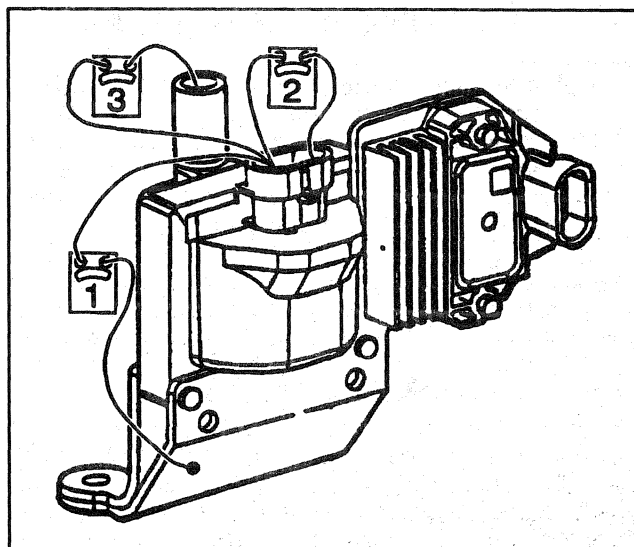

Figure 6—Testing the Ignition Coil (typical)
2. Connect an ohmmeter as shown in Figure 6, Step 1. Use the high scale. The reading should be infinite. If not, replace the coil.
3. Connect the ohmmeter as shown in Figure 6, Step 2. Use the low scale. The reading should be 0.1 ohms. If not, replace the coil.
4. Connect the ohmmeter as shown in Figure 6, Step 3. Use the high scale. The meter should read 5k - 25k ohms. If not, replace the coil.